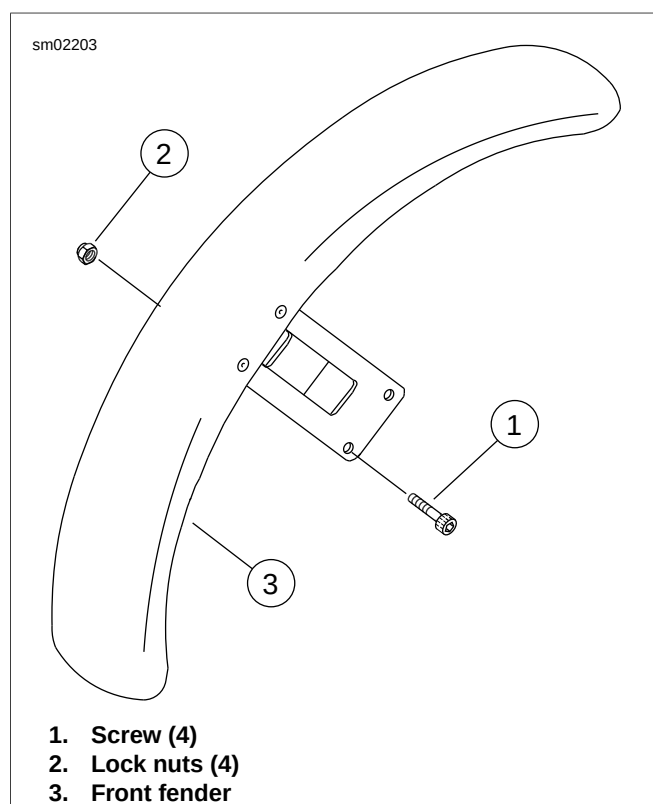

Figure 2-230. Front Fender: XL Models
1. See Figure 2-230. Remove four screws (1) and lock nuts (2) to detach front fender (3) from front fork sliders.
1. See Figure 2-230. Carefully position front fender (3) between right and left front fork sliders.
2. Secure fender using four screws (1) and lock nuts (2). Tighten to 96-156 **in-lbs** (10.9-17.6 Nm).